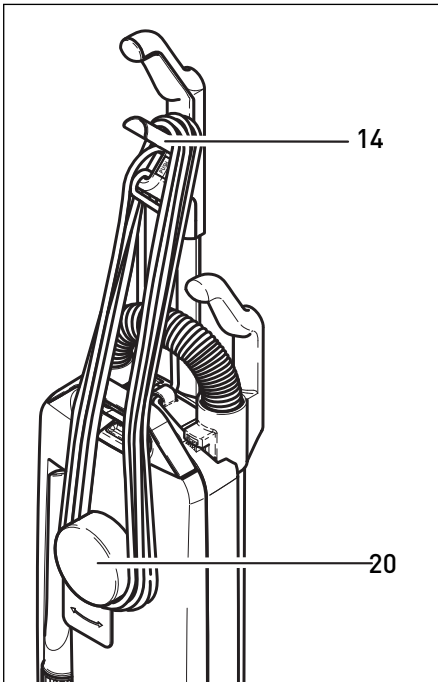
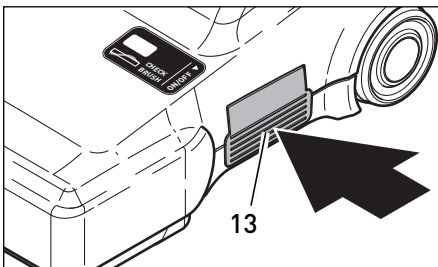

Figure 6
Figure 7
Starting The Machine - Figures 6 & 7
1. Turn the quick-release lower cable reel (20) to the up position by moving it to the left or right (figure 6).
2. Release the power cord plug from the power cord and lift the cord off of the upper cable reel (14).
3. With the orange on/off switch (13) in the OFF position (figure 7), plug the polarized power cord into a 120 volt outlet located near the floor.
4. Turn the machine on by gently tapping the on/off switch (13) with your foot or hand. To switch the vacuum off, tap it again, and the switch will pop out to the off position.